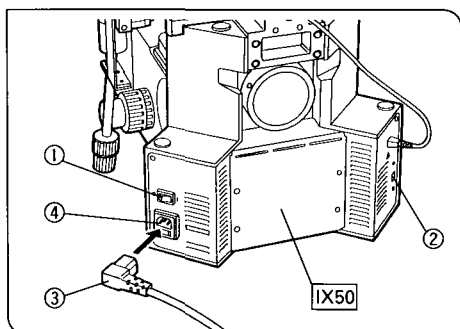

Fig. 45
(Fig. 45)
- ⚠ Make sure that the main switch ① is on "O" (OFF) before connecting cords and cables. (Fig. 45)
1. Before shipment from factory, the voltage selector switch ② is set to the 200-240V position in case of the IX-50. In case your local line voltage is 100-120V, move the switch to the 100-120V position using a flat-blade screwdriver.
2. Connect the power cord plug ③ to the AC receptacle ④. (Fig. 45)